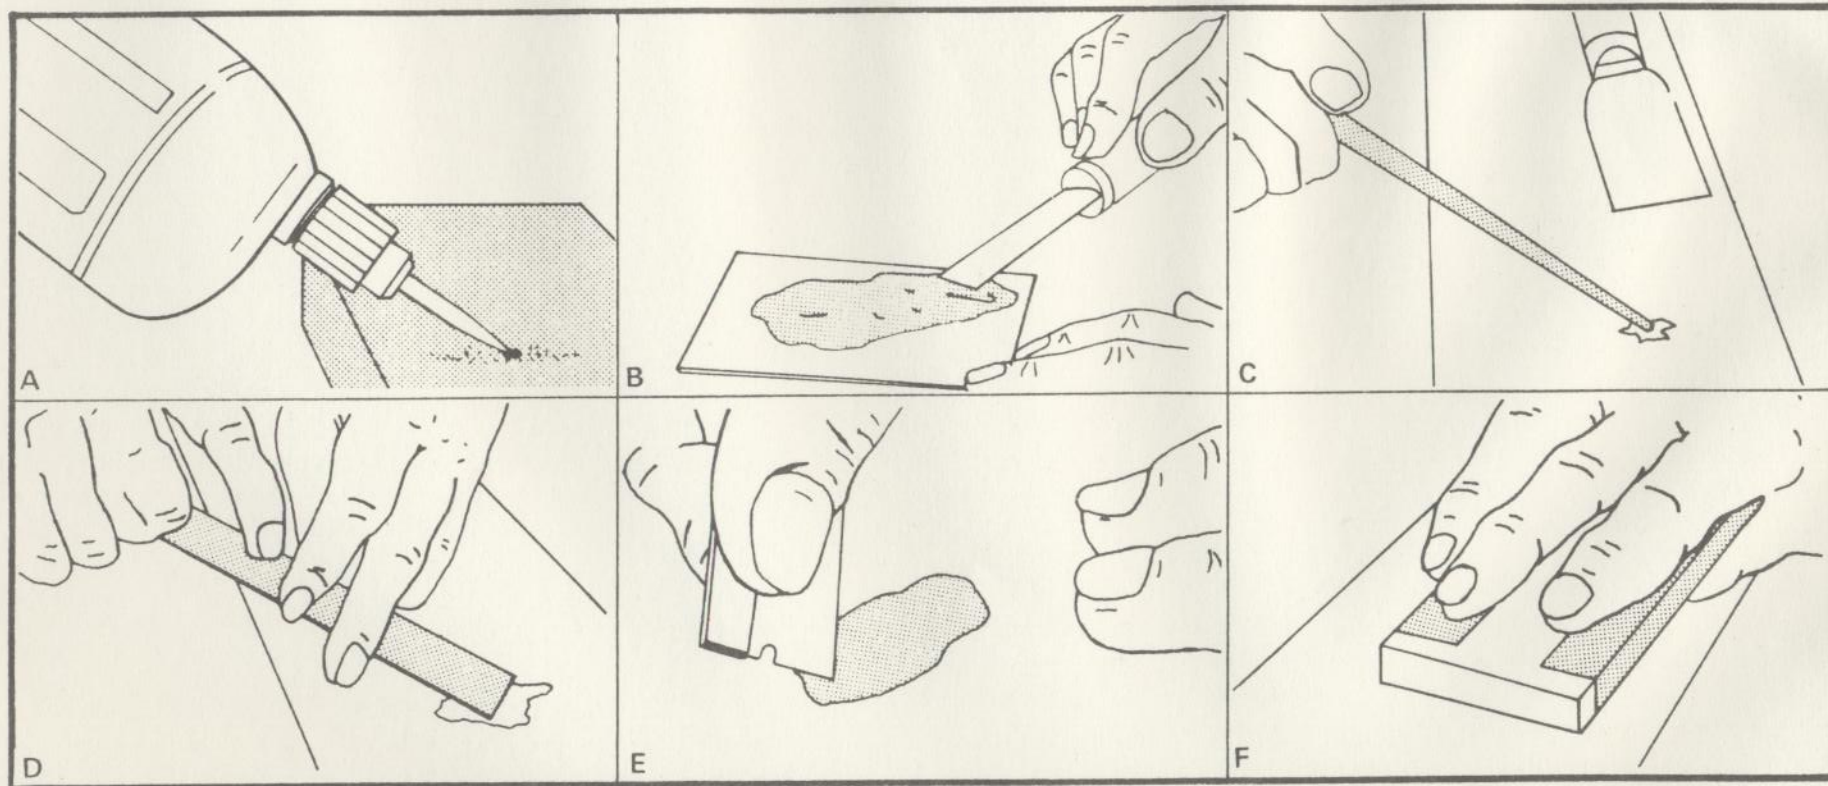

Figure 1
□ Check measurement of wheel base on each side of car. The measurement from the center line of the front wheel axis to the center line of the rear wheel axis should be equal on each side. Refer to Figure 1. Shift the Torsion Tube Support to the left or the right until you achieve equal wheel base measurements. When this is accomplished, tighten all bolts. Using the remaining two holes on the Torsion Tube Support plate as a guide, drill two 9/16" holes into the Super Beetle chassis. Insert two sets of 1/2 x 2" bolts, spacers, flat washers, lock washers and nuts supplied with the kit, as shown in the illustration, and tighten. At this time, recheck the wheel axis measurements on both sides of the frame to confirm that no shifting has occurred.